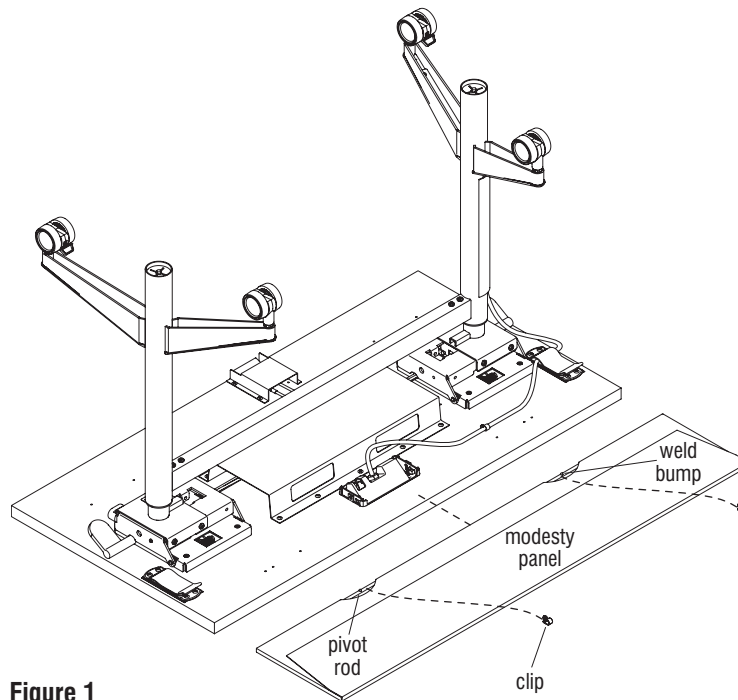

Figure 1
1. Position the modesty panel down near the back edge of the tabletop where it will install. The wire manager on the modesty panel should face up, and the notches exposing the pivot rod in the panel should face the back edge of the table as illustrated (Figure 1 & Detail A).
2. Locate the mounting clips and position them over the pivot rod and to the inside of the weld bump as illustrated. For longer modesty panels, an additional two clips are used, one at each side of the center support rod into modesty panel. The tabs with the mounting hole must face the modesty panel, or disassembly and reassembly will be required (Figure 1 & Details A & B).